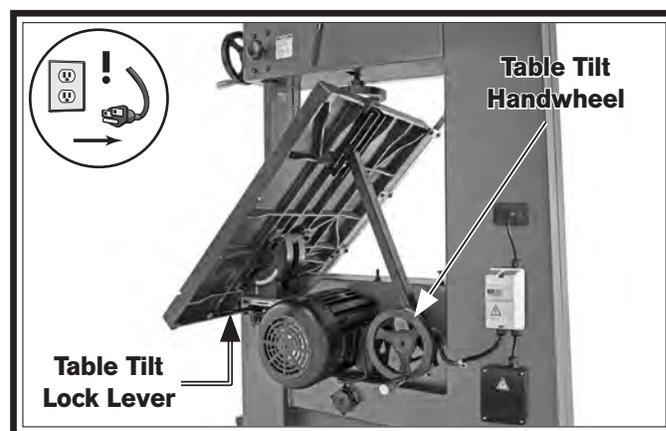

Figure 63. Table tilted up.
3. Loosen table tilt lock lever, and use table tilt handwheel to raise table (see **Figure 63**).